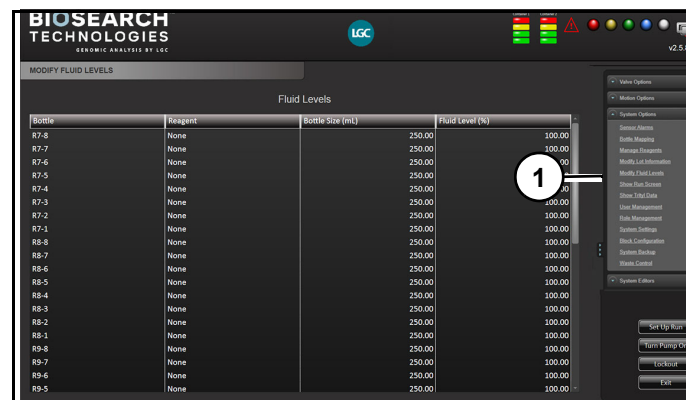

Figure 49
Modify Fluid Levels (1) (Figure 49) is used to track fluid levels. Bottle size can be entered, and after each run, user can manually subtract amount used in previous run in terms of percentage loss. Helps keep track of chemical consumption and ensure user checks reagent levels to prevent failed runs due to insufficient chemicals.